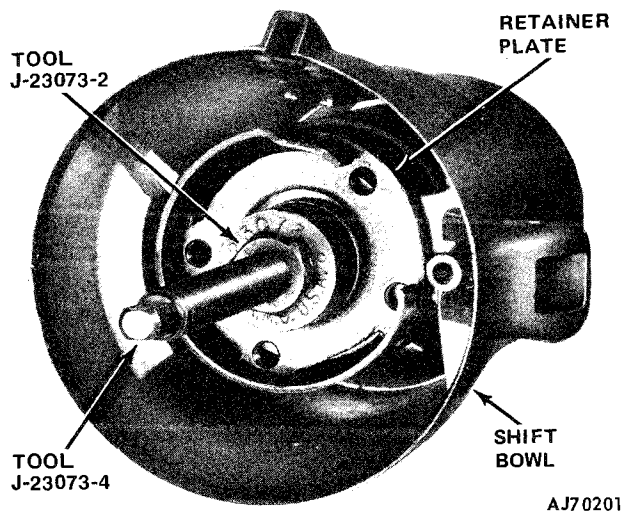

Fig. 2J-42 Positioning Shift Tube Installer Tools
- (1) Coat all bearing and friction surfaces with multi-purpose grease.
- (2) Mount shift bowl on column jacket.
- (3) Install shift tube spring, wave washer, and retainer plate in shift bowl.
- (4) Install shift tube through lower end of column jacket and align tube spline with shift bowl keyway.
- (5) Insert Installer Tools J-23073-2 and -4 in shift tube (fig. 2J-42). Spring-loaded lower foot of tool must engage shift tube inner shoulder and tool guide must be seated in shift tube.
- (6) Tighten tool spring tension nut to snug fit.
- (7) Place Receiver Tools J-23073-3 and -4 over puller stud and tighten Tool Nut J-23073-2 to pull tube into shift bowl (fig. 2J-43).
- (8) Remove shift tube installer tools.
- (9) Install shift tube thrust washer and retainer plate snap ring.
- (10) Install lower bearing adaptor with notched end of adaptor facing lower end of column.
- (11) Install lower bearing in column with metal face of bearing toward lower end of column.